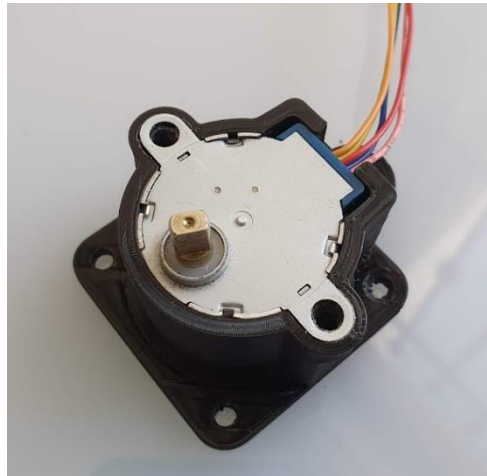

Figure 29- Stepper Motor at the Base of the Arm
12. Place the stepper motor at the base of the arm (Figure 29).